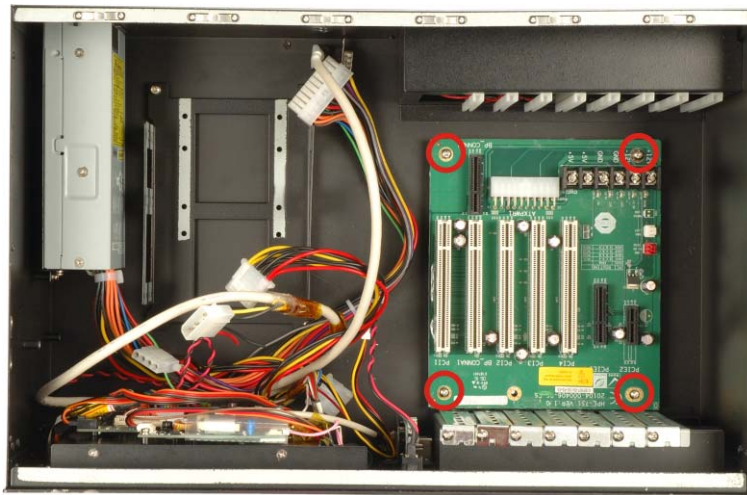

Figure 4-5: Backplane Retention Screws
- Step 4:** Insert retention screws to secure the backplane to the chassis (**Figure 4-5**).